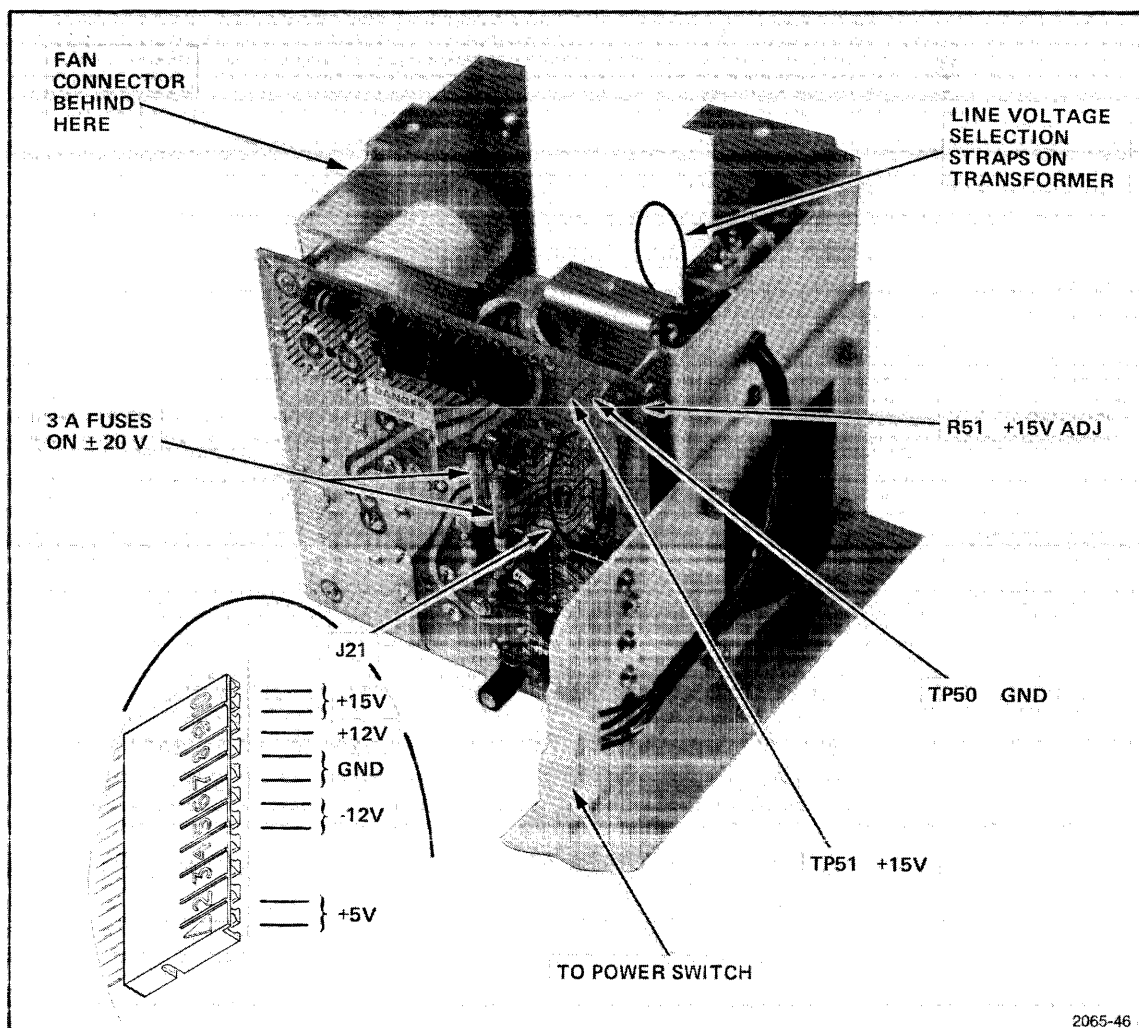

Fig. 4-2. Power supply check points and adjustments.
3. Adjust the +15 volt supply by placing a voltage meter on the +15 volt test point (TP51) and power up (Fig. 4-2). A ground pin (TP50) lies adjacent to the +15 volt test location. Adjust R51 for +15 volts (limits are: 14.85, 15.15).
5. Figure 4-2 also points to several other components that should be checked if problems are encountered.